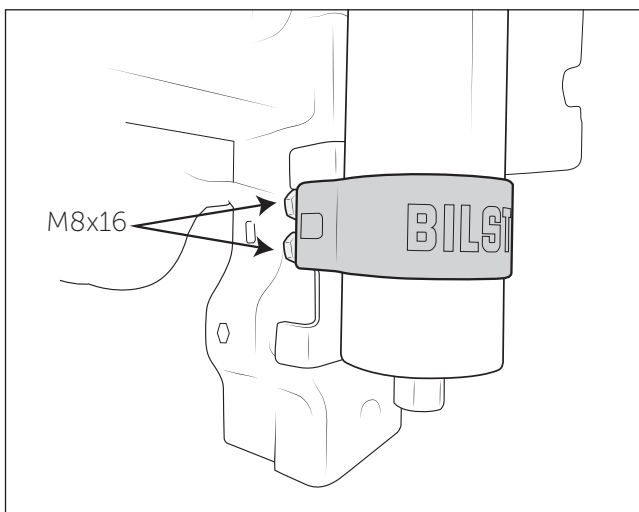

Figure 8
9. Install the reservoir clamp onto the reservoir so that lettering is right-side up with hose fitting at the top. Be careful not to scratch the paint when sliding the clamp on. Hold it in place and route the hose under the edge of the wheel liner, being careful to avoid any sharp edges. Bolt the clamp in place onto the reservoir brackets using the provided M8x16mm bolts and washers. The clamp should mount to the bracket with the rear set of holes so that the front and rear edges of the bracket are flush to the edges of the clamp (fig. 8). Mounting it to the forward set of holes can result in tire rub on the reservoir while turning. Tighten clamp retainer bolts to 20 ft-lb.